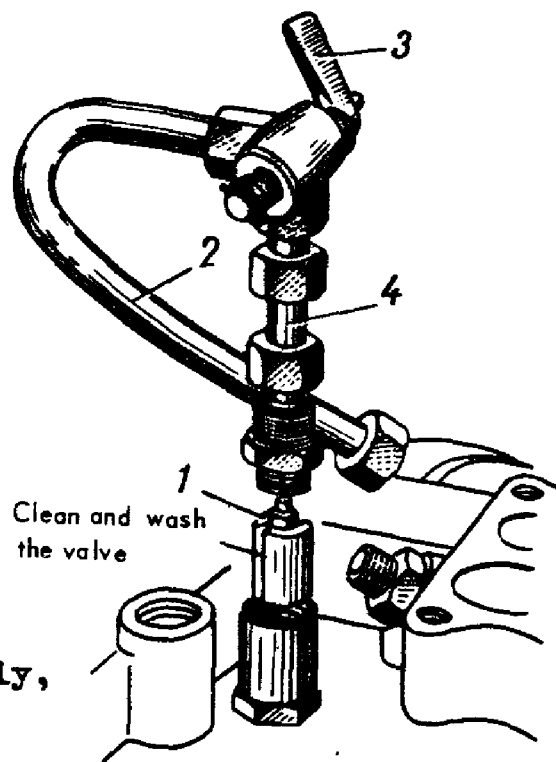

FIG.23. CLEANING AND WASHING CRANKCASE VENTILATION VALVE
3. Remove, clean and wash valve 1 (Fig.23) of the engine crankcase ventilation system.